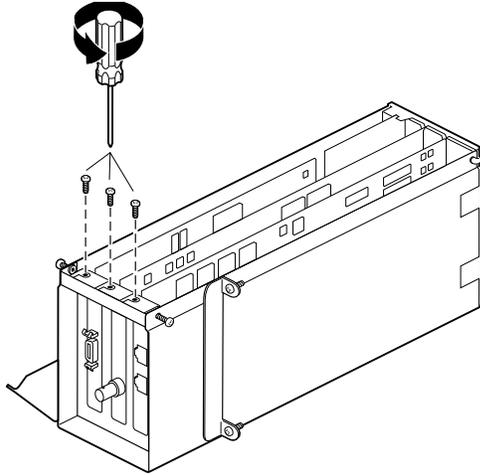

Figure 4-36 Removing the I/O Panel Screws
1. Remove the screws that secure any other PCI boards to the module, as shown in Figure 4-36.